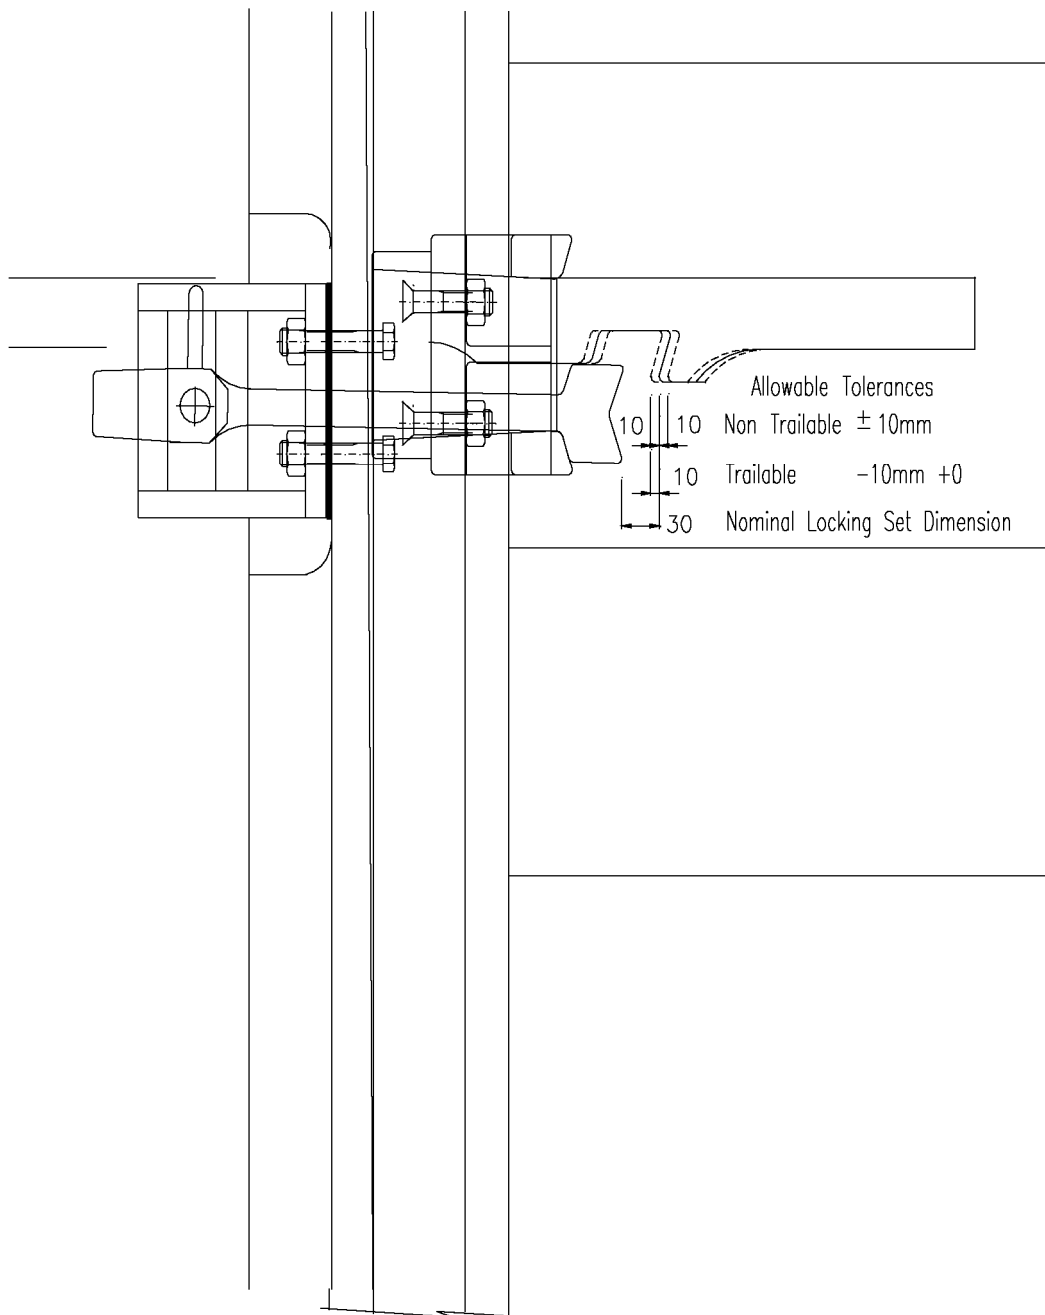

Figure 2.2 - Back drive Locking Set Dimension
7. Slacken off the bolts and nuts at the serrations in the back operating bar and set the bar to give the “locking set dimension” shown for backdrives in Figure 2.2